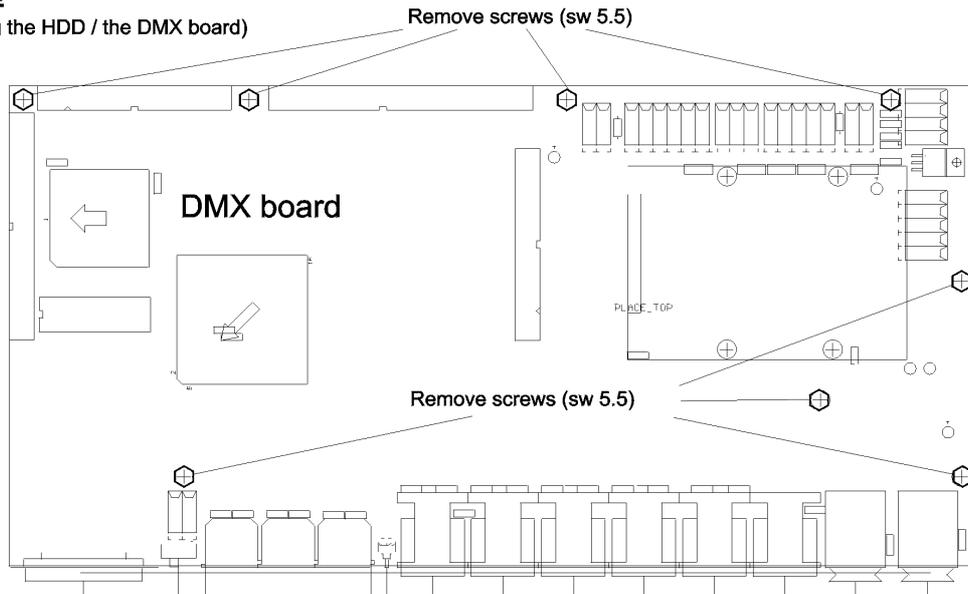

Fig. 3
- 2.3. Remove the fastening screws on the back panel of the unit and pull the plugs of the keyboard and mouse cables (see fig. 3).